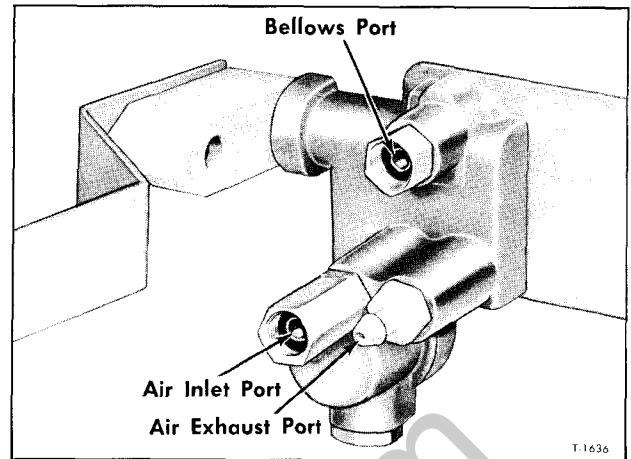

Figure 8—Identification of Valve Air Ports
2. Connect air pressure line to air inlet port (fig. 8), then open the air pressure (80-110 psi).
5. Remove air pressure line from air inlet fitting and connect it to the bellows port (fig. 8). If bubbles appear at the air inlet check valve port, this is an indication that check valve unit is defective and must be replaced.
6. If bubbles appear at the exhaust port (fig. 8), it is an indication the exhaust valve assembly is defective and must be replaced.
6. If vacuum source is available, attach supply hose to valve exhaust port (fig. 8) using Sun Tester fitting #115-3 or equivalent. Do not apply vacuum at this time.
7. Attach air pressure supply hose to air inlet port (fig. 8). Do not apply pressure at this time.
1. Connect air supply hose (80 to 110 psi) to air inlet port (fig. 8).
b. Being careful not to disturb indicator setting, disconnect air supply from the air inlet port and connect it to the bellows port (fig. 8).
1. Connect air pressure supply hose to valve air inlet port (fig. 8).